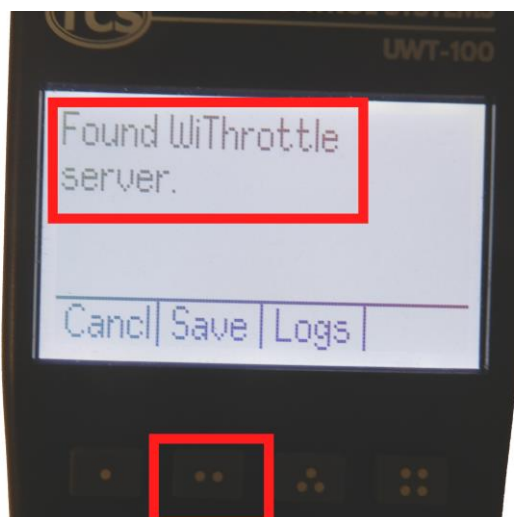

Figure 25 The WFD-30 WiThrottle server has been found. Now save it!
- (6) There will be a number of messages appear but eventually you should see the message "Found WiThrottle Server" as Figure 25. Press the Save [.] key.
- (7) Briefly, the message "Connected to wftrx_WFD30_6_XXXXXXX_7" should appear. The green network LED on your WFD-30 should now flash regularly to show that the UWT-100 is communicating with it.